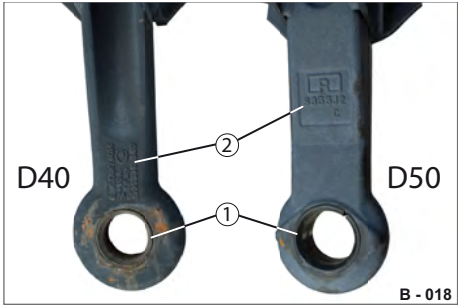

Fig. 15 Towing eyes with wear bushings
- Only replace a worn/deformed towing eye with an original replacement part - see identification (Fig. 15/2) on the towing eye.